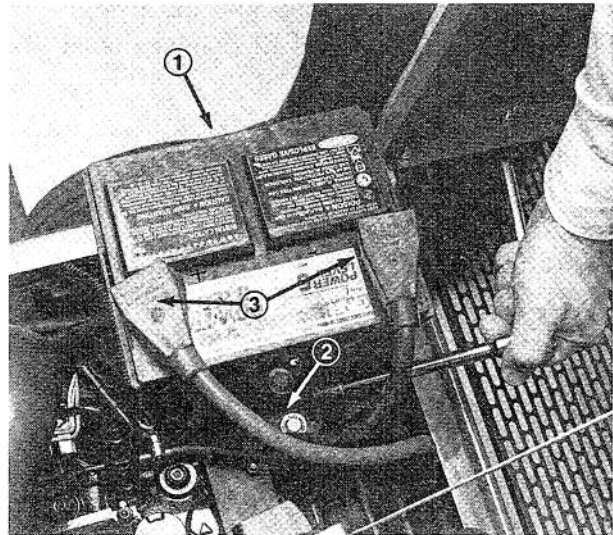

Figure 8
1. Lift engine cover. Check to see that the battery is securely fastened in place (Fig. 8).